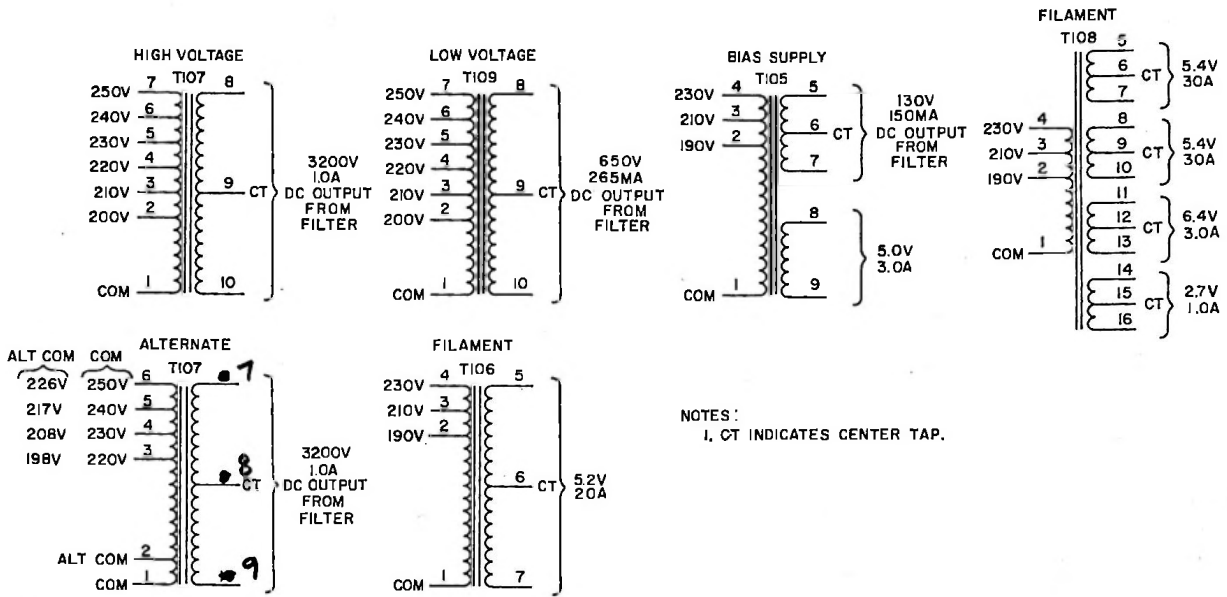

Figure 2-3. Transformer Details
d. Measure the station line voltage. Refer to figure 2-3 and make connections to the high-voltage transformer (T107) primary terminals that most nearly correspond to this voltage.
In some units of the 20V-3, transformer T107 has different primary winding taps. Refer to figure 2-3, and check T107 before applying power to the transmitter.